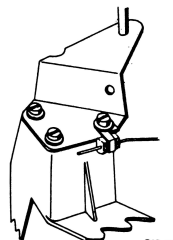

Fig. 1
- Adjust plate 138 so that both sides of this plate run parallel to the chassis, see fig. 1 of this information.
For this a torsion spring, item 183a, must fitted as shown in fig. 1. After mounting, check whether the idler wheel bracket can easily be operated. The contact faces of the spring must be greased (code number of grease: A9 881 22/P50). The code number of the spring is: 4822 214 00942.
Should after some time the mechanical noise still be perceptible at $7\frac{1}{2}$ " / sec., then the idler wheel, item 175, must be replaced. The new idler wheel has closer tolerances and is indicated with a blue cross. The code number is: WY 876 01. At the same time a ring, item 174, has been added (see fig. 1).